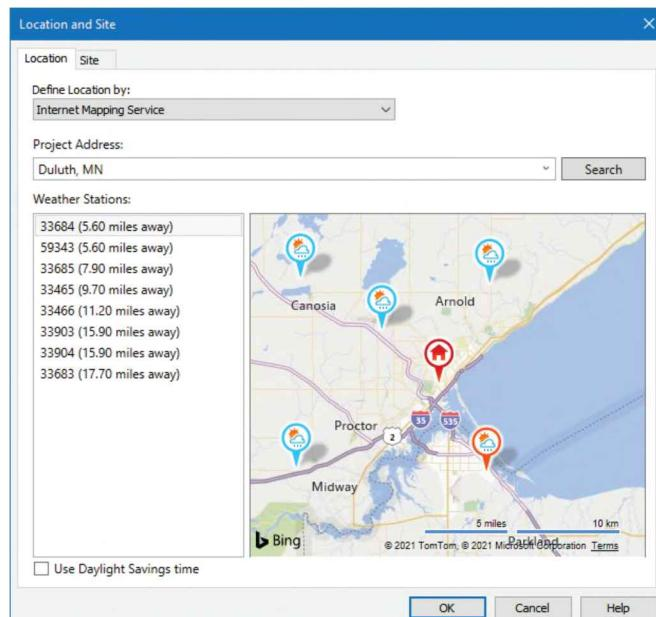

FIGURE 5-1.8 Specify Project Location
17. In the *Project Address* field, enter **Duluth, MN** (or your city/state) (Figure 5-1.8).